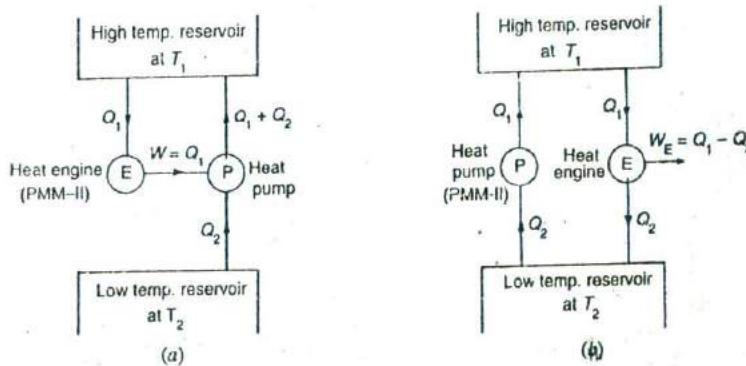

Fig. 1.13. Equivalence of Kelvin-Planck and Clausius statements.
1. Consider a system as shown in Fig. 1.13 (a). In this system, a heat engine having 100 percent thermal efficiency (i.e. PMM-II) is violating the Kelvin-Planck statement as it converts the heat energy ( $Q_1$ ) from a single high temperature reservoir at  $T_1$ , into an equivalent amount of work (i.e.  $W = Q_1$ ). This work output of the heat engine can be used to drive a heat pump (or refrigerator) which receives an amount of heat  $Q_2$  from a low temperature reservoir at  $T_2$  and rejects an amount of heat ( $Q_1 + Q_2$ ) to a high temperature reservoir at  $T_1$ . If the combination of a heat engine and a heat pump (or refrigerator) is considered as a single system, as shown in Fig. 1.13 (a), then the result is a device that operates in a cycle and has no effect on the surroundings other than the transfer of heat  $Q_2$  from a low temperature reservoir to a high temperature reservoir, thus violating the Clausius statement. Hence, a violation of Kelvin-Planck statement leads to a violation of Clausius statement.
2. Consider a system as shown in Fig. 1.13 (b). In this system, a heat pump or refrigerator (i.e. PMM-II) is violating the Clausius statement as it transfers heat from a low temperature reservoir at  $T_2$  to a high temperature reservoir at  $T_1$  without any expenditure of work. Now let a heat engine, operating between the same heat reservoirs, receives an amount of heat  $Q_1$  (as discharged by the heat pump) from the high temperature reservoir at  $T_1$ , does work ( $W_E = Q_1 - Q_2$ ) and rejects an amount of heat  $Q_2$  to the low temperature reservoir at  $T_2$ . If the combination of the heat pump (or refrigerator) and the heat engine is considered as a single system, as shown in Fig. 1.13 (b), then the result is a device that operates in a cycle whose sole effect is to remove heat at the rate of ( $Q_1 - Q_2$ ) and convert it completely into an equivalent amount of work, thus violating the Kelvin-Planck statement. Hence, a violation of Clausius statement leads to a violation of Kelvin-Planck statement.